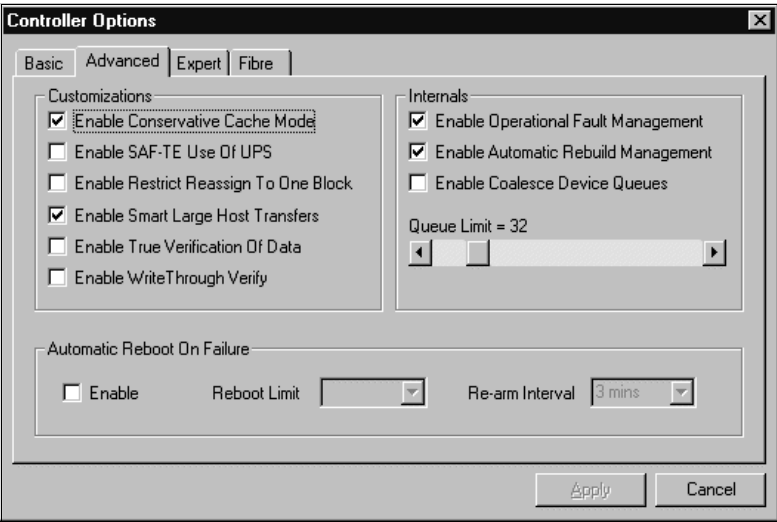

Figure 5: SAM Advanced Controller Options Dialog Box (simplex)
- Open the *Advanced* dialog box and set the parameters as shown in figure 5.